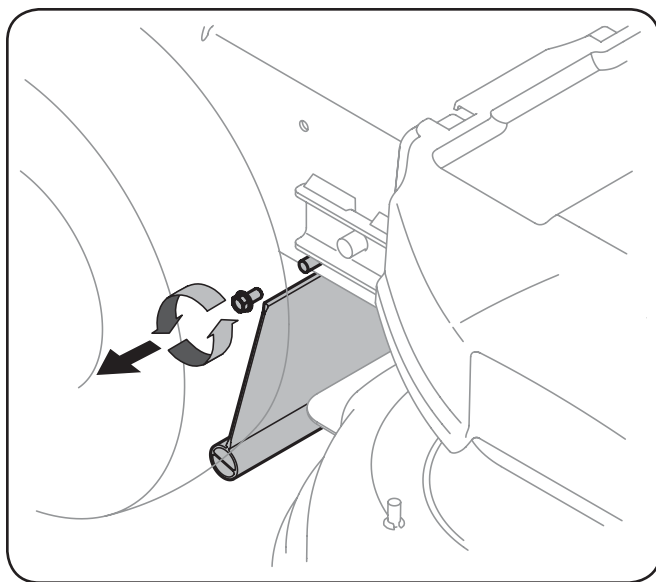

Figure 7-7
1. Remove the screw which secures the trail shield to the right side of the mower. See Fig. 7-7.